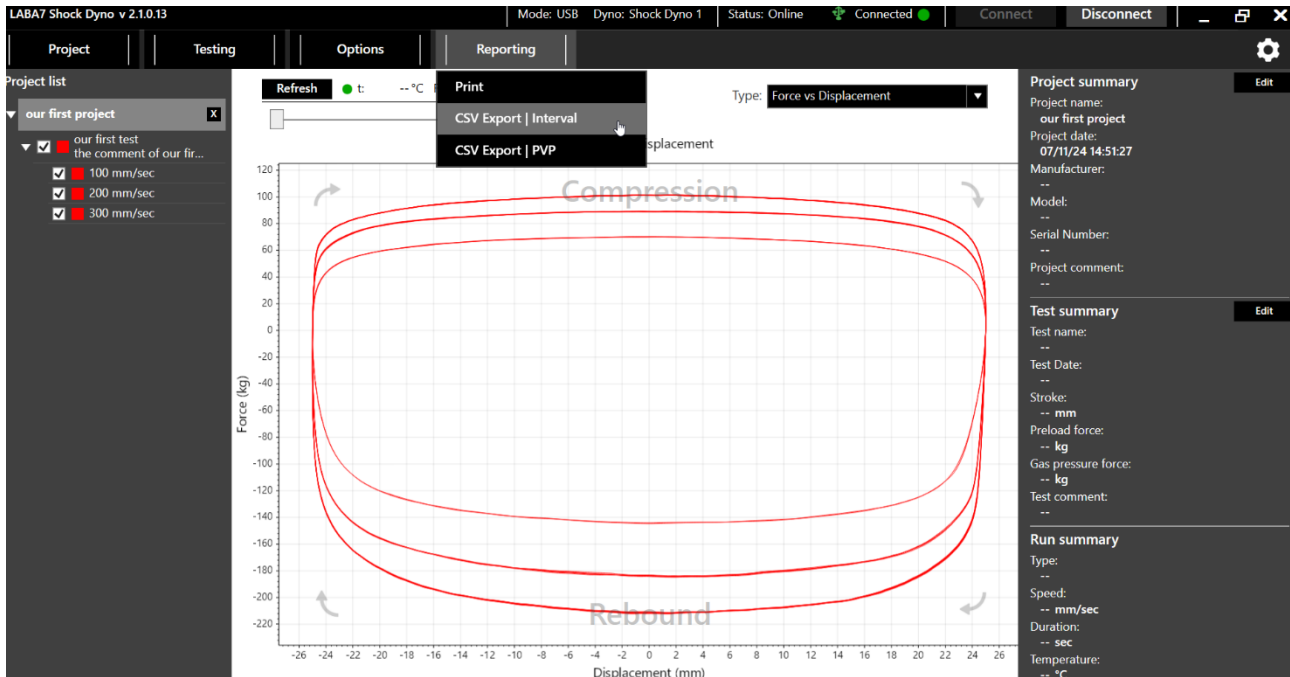

Figure 39
2. Press reporting (fig.39).
2. Press “reporting” (fig.39).